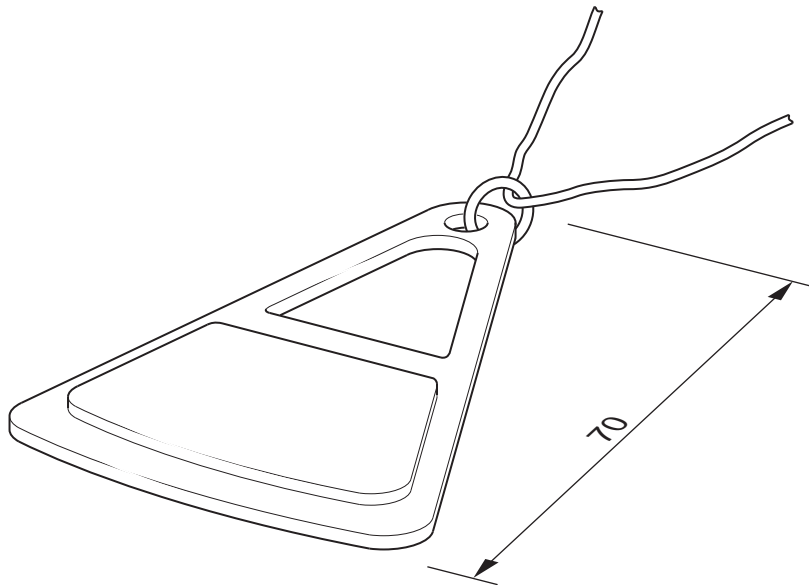

Fig. 1
- 1 Fig. 1 shows an item of jewellery.